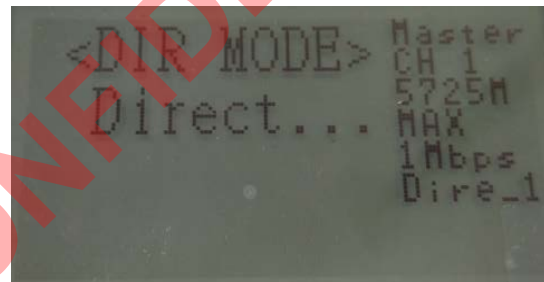

Fig.16
2. Press 'Enter' button to confirm as shown in Fig.16.